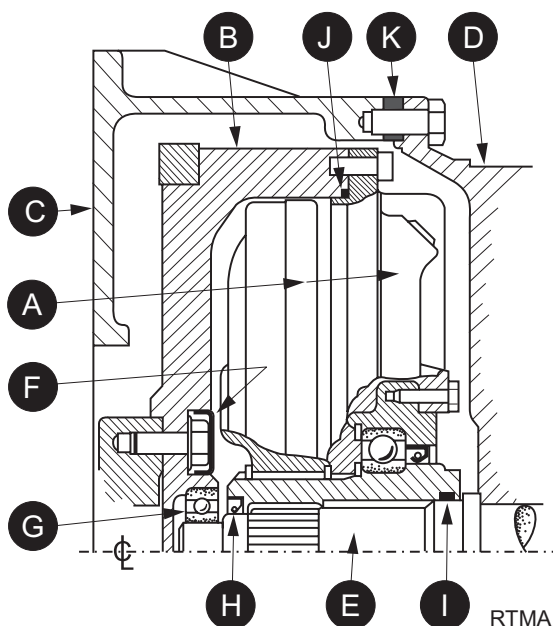

FIGURE 2 - FLUID DRIVE COUPLING AND FLYWHEEL (Procedures 6 to 9)
- 1 Before fitting coupling, renew oil seal and 'O' rings (Items 8, 9 and 10, Figure 2).
- 2 Some engine installations have an adaptor ring between the flywheel housing and the gearbox. (See Fig. 2, Item 11)